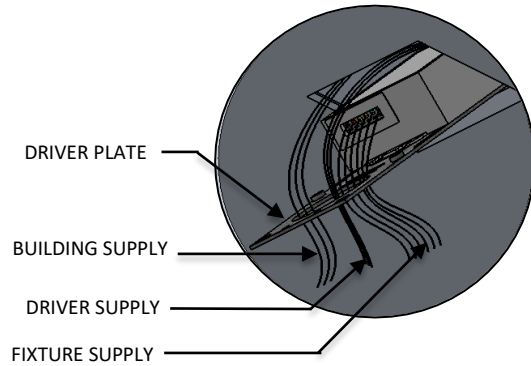

FIG. 20- DETAIL SHOWING BUILDING SUPPLY AND DRIVER WIRE
17. Slide DRIVER PLATE into the box with the driver facing up.as you slide the plate in, make sure you pull the BUILDING SUPPLY connections through the large hole in the DRIVER PLATE as shown below in FIG. 20 and other wires will already be through the center hole.